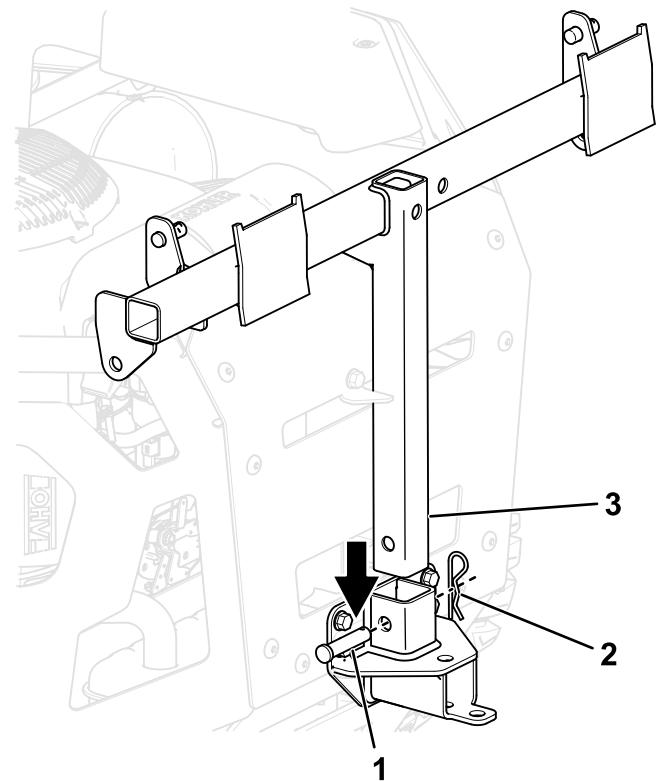

Figure 8
- 5. Install the bagger frame to the bagger mount bracket using the long clevis pin and a hairpin (Figure 8).